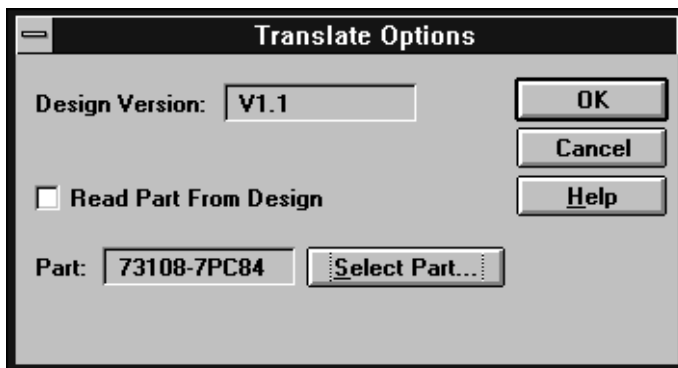

Figure 1-6 Translate Options Window
8. The Translate Options window appears as in Figure 1-6: